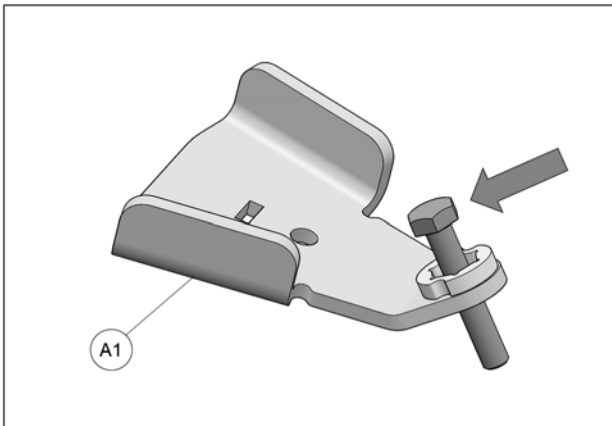

Fig. 16
4. Insert bolt in front anchor bracket (A1) as shown in Fig. 16